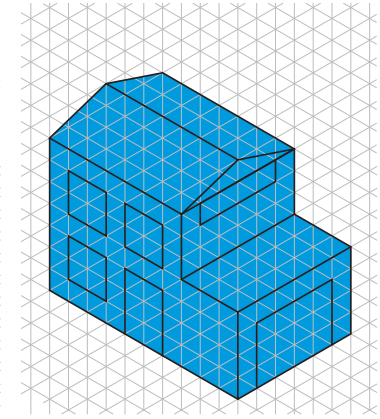

Figure 3-19. Remove construction lines to complete the house.
4. Complete the line work by removing unnecessary construction lines. Darken the remaining lines to form the building's shape. Add color if desired. See **Figure 3-19**.